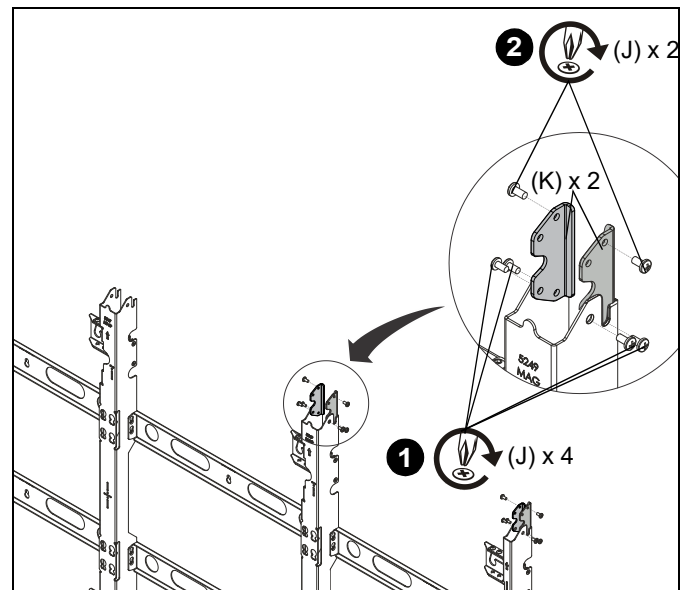

Figure 7
1. Add the vertical connector (K) to the top or bottom of the mount, and fasten with four 1/4-20 x 1/2" Phillips pan head screws (J) per vertical connector (K). (See Figure 7)
2. Partially install two 1/4-20 x 1/2" Phillips pan head screws (J) into top or bottom screw holes on connectors (K). (See Figure 7)